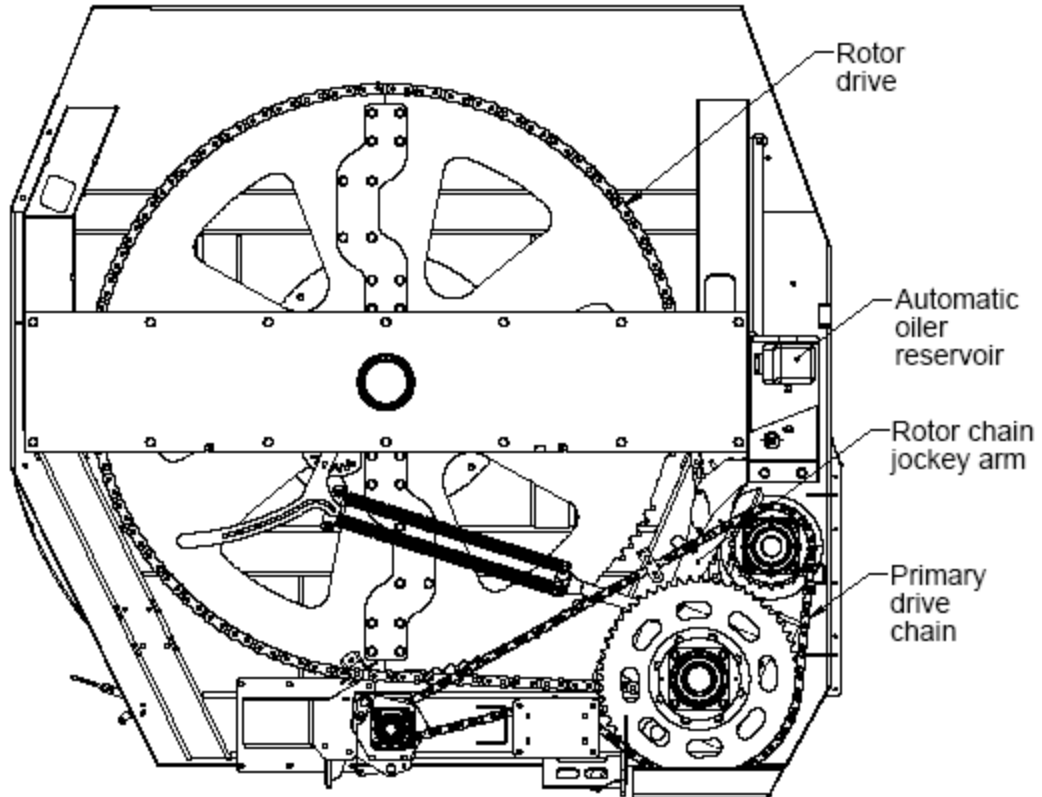

Figure 8. Front panel of Keenan 280
1. Each week check the condition of the chain tension arms and adjust as required. There are three chains used on the K280 model. The primary drive chain (ASA120) drives the idler shaft from the input shaft, see figure 8 and the secondary chain (ASA160SH) drives the rotor. The third chain (ASA100) drives the auger independently. All three chains are tensioned by a spring assembly on the slack side of the chain.
2. Each day check the level of oil in the automatic oiler reservoir, figure 8. If the oil level is low, top it up with light hydraulic oil, grade SAE 32 or similar.